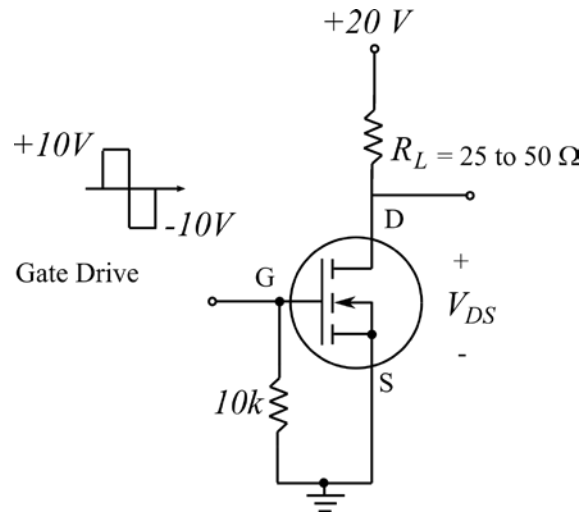

Figure 5: Driving a resistive load with a power MOSFET.
1. Using an *RFPI4N05 MOSFET*, construct the circuit of Figure 5 (the instructor will have the *MOSFET*'s data sheet). **CAUTION!** These transistors are vulnerable to static charges. Discharge yourself before handling the device! Also, NEVER apply power to a *MOSFET* before the gate is properly terminated. If the gate is left open, it will turn on when the power supply is connected to the circuit!